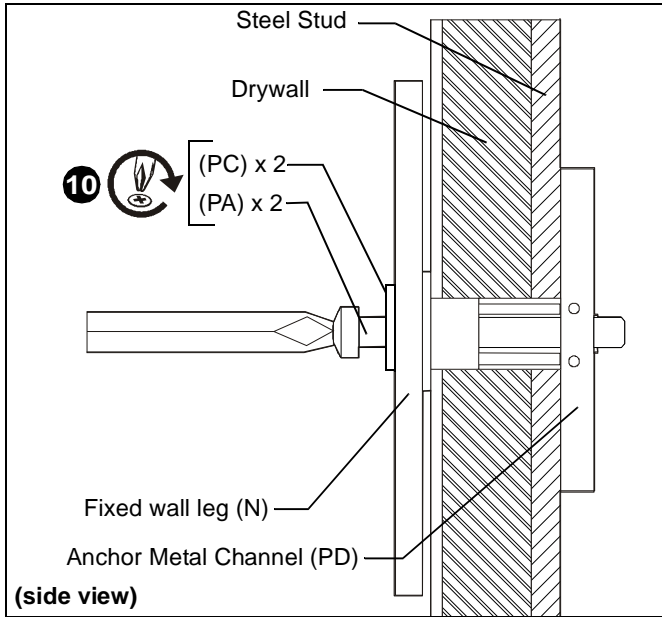

Figure 19
8. Place fixed wall legs (N) over anchors and align mounting slots with holes in anchors. (See Figure 19)
9. Place 1/4" flat washer (PC) onto 1/4-20 x 1-3/4" Phillips pan head screw (PA).
10. Insert Phillips pan head screw (PA) with flat washer (PC) through mounting slot in fixed wall leg and into anchor (PE) and tighten until flush against fixed wall leg. DO NOT overtighten! (See Figure 19)